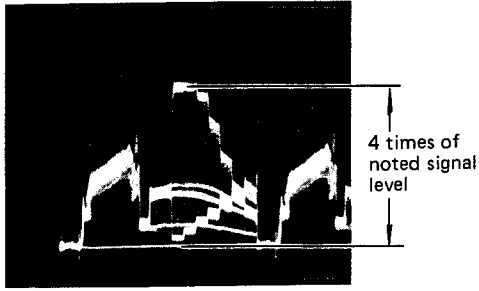

Fig. 5-6-30
- o Adjust VR32 (G FBC LEVEL) so that the peak-to-peak signal level is four (4) times of the noted level. (Fig. 5-6-30)
- o Adjust VR33 (B FBC LEVEL) and VR34 (R FBC LEVEL) so that the peak-to-peak signal level of R and B signals are four (4) times of the noted level. (Fig. 5-6-30)